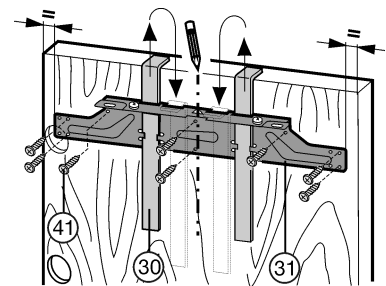

Fig. 22
- ▶ Unscrew the crosspiece Fig. 22 (31) by undoing the locknuts Fig. 22 (32).
- ▶ Hang the crosspiece Fig. 22 (31) on the inside of the unit door using the fitting aids Fig. 22 (30).
- ▶ To center the crosspiece Fig. 22 (31): Mark a short center line on the unit door and place the tip of the arrow on the crosspiece over it.
- ▶ To align the crosspiece *Fig. 22 (31)*: Mark a short center line on the unit door and place the tip of the arrow on the crosspiece over it. Now shift the crosspiece *Fig. 22 (31)* 7/32 " (5.5 mm) towards the hinge side.
- ▶ Fasten the crosspiece *Fig. 22 (31)* with at least 6 screws *Fig. 22 (41)*.
- ▶ Fasten the crosspiece *Fig. 22 (31)* with 4 screws *Fig. 22 (41)* at the edge.
- ▶ Lift up the fitting aids *Fig. 22 (30)*, turn them around, and insert them into the adjacent openings.